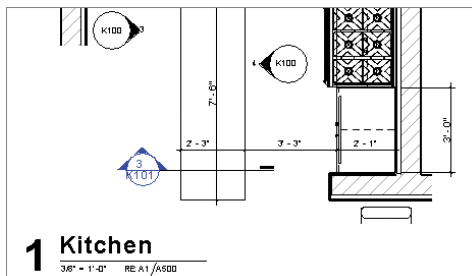

FIGURE 12.26 Finished enlarged plan
11. Finally, right-click and choose Deactivate View. This is a simple example, but adjusting crop regions in the context of other views on sheets is an essential Revit skill you'll use often. The finished plan is shown in Figure 12.26.